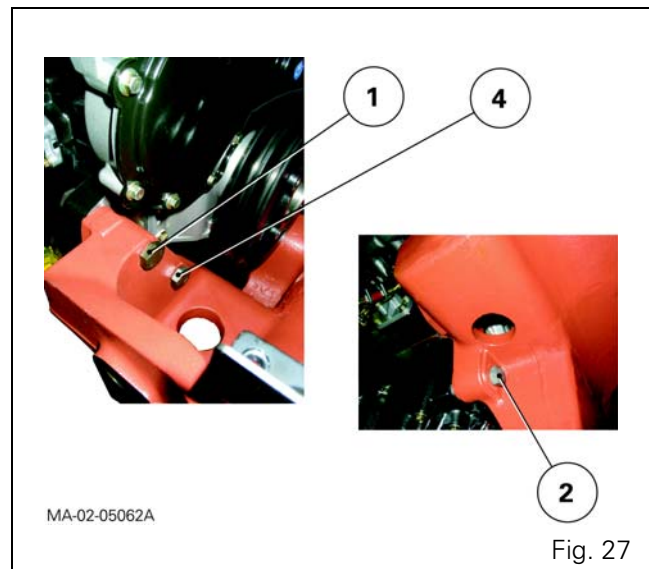
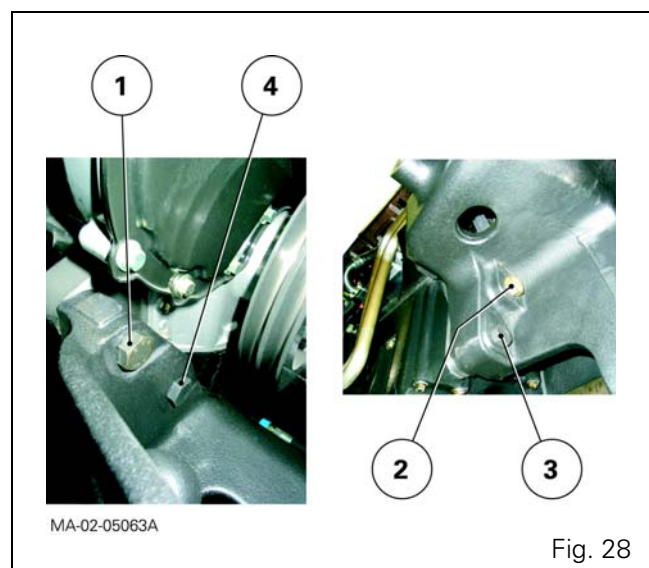

Fig. 27
Fig. 28
- **Front frame and Perkins engine with mechanical injection (Fig. 27)**
53. Fit screws (2), (4) and nuts (1), simultaneously taking out the guide studs.
54. Tighten opposing screws and nuts to a torque of 240 - 320 Nm in the following order (2) (4) (1).
- **Front frame and Perkins EEM engine (Fig. 28)**